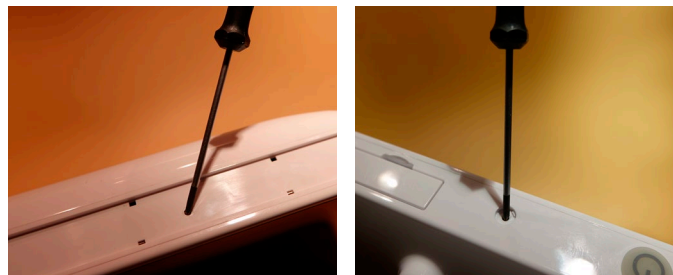

Figure 6 Removing the screws
e) Remove the screws on all four edges of the displaying unit (Figure 6)